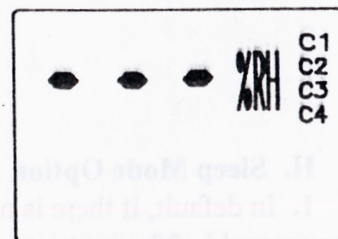

FIG 20
7. Press NX/td until C3 flash as Fig. 20.